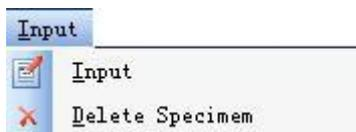

Figure 4-5
C input (I) menu functions; shown in Figure 4-5
- ① Input (I), enter the input form;
- ② Remove(D), to delete the specified sample of the test data.